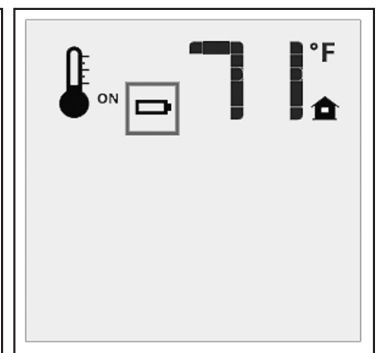

Figure 15: Low Battery Indicator.
**Transmitter:** The life span of the remote control batteries depends on various factors: quality of the batteries used, the number of ignitions of the appliance, the number of changes to the room thermostat set point, etc. When the Transmitter batteries are low, a Battery Icon will appear on the LCD display of the Transmitter (see Figure 15) before all battery power is lost. When the batteries are replaced this Icon will disappear.